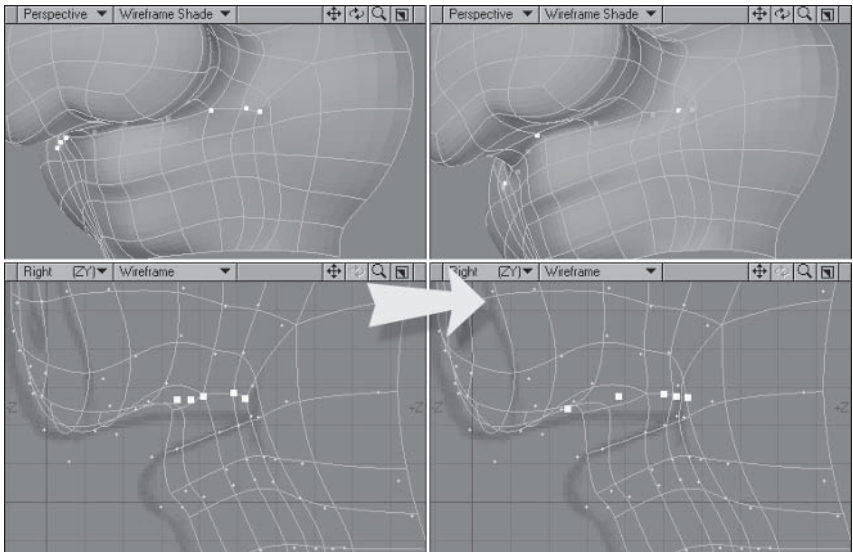

Figure 5.3-32. Shaping the top lip.
10. Now select the points at the top of the mouth (base of the nose) and adjust them to match Figure 5.3-32.